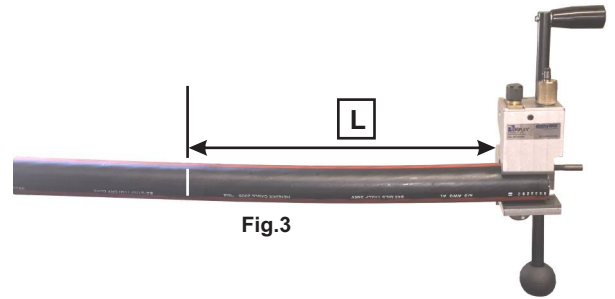
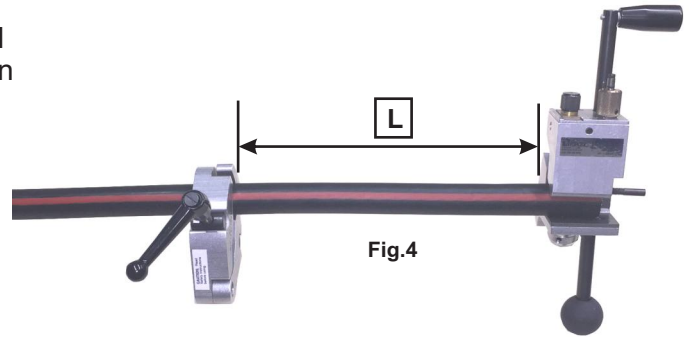

Fig.3
Fig.4
5. Establish the jacket strip length - (L)
Measure the jacket strip dimension from the inner side of the tool.(L) Mark this location on the cable (Fig.3) or place a tool stop there like the *Utility Tool QC-2 Clamp*. (Fig.4)